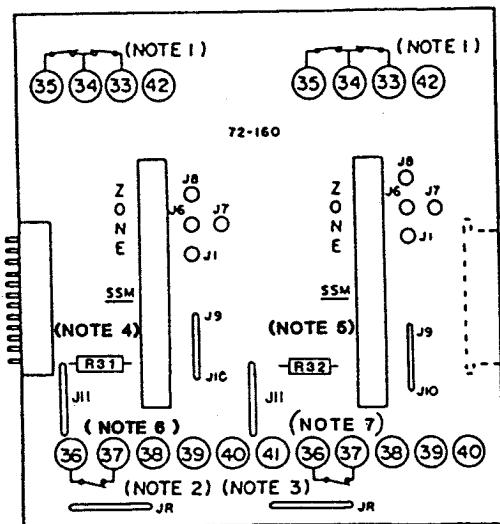

FIGURE 12
12.2 INITIATING CIRCUITS WITH SPRINKLER SUPERVISORY MODULE (SSM) (Fig. 12)
Notes for use with Figure 12: